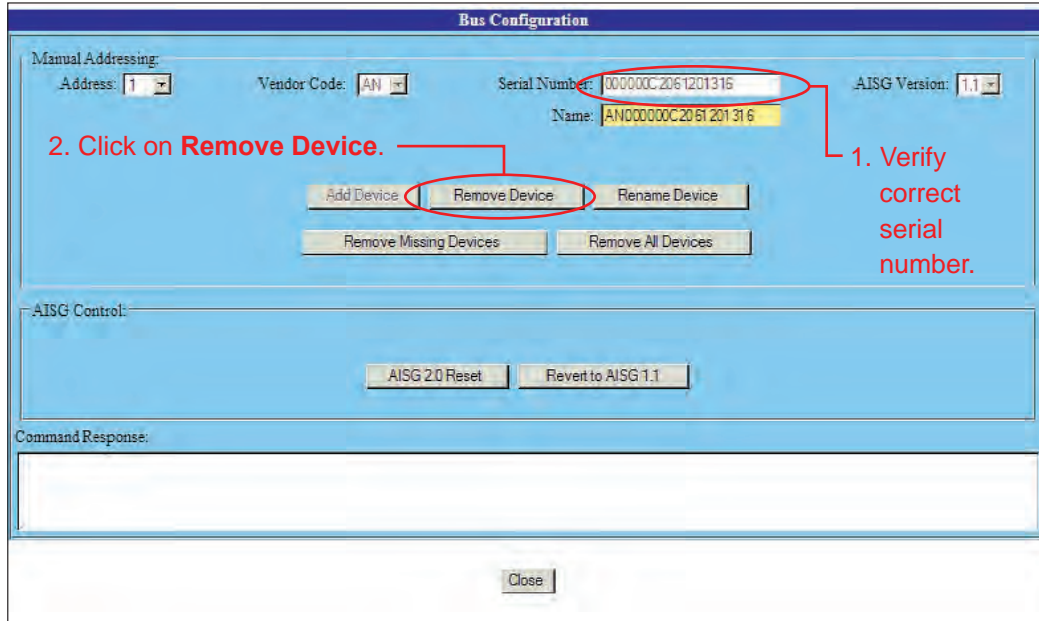

Figure 11-5. Removing A Device Using *Configure Bus* Feature.
2. Verify that the correct serial number for the device that is to be removed shows in the **Serial Number** field (Figure 11-5).
3. Click on **Remove Device** (Figure 11-5).
Note that there are also options to remove all devices or to remove all missing devices (Figure 11-5). **Remove Missing Devices** removes all devices from the controller database that are not currently communicating with the controller (or are in an "AISG\_NO\_REPLY" state).